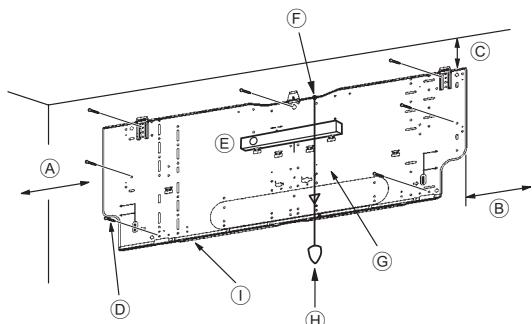

Fig. 3-4
■ PKA-M60, 71, 100KA(L) (Fig. 3-4)